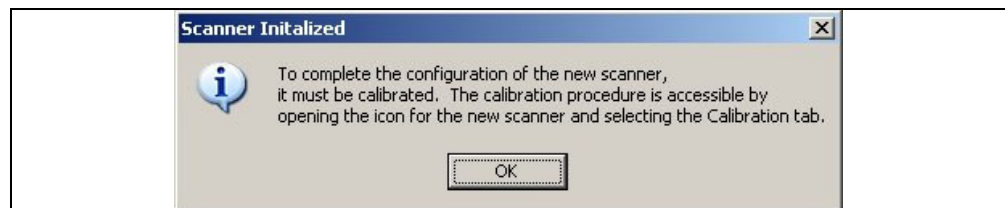

Figure 2. Scanner Initialized Message
Step 7: The message shown in figure 2, below, will be displayed if a calibration for the gauge installed does not exist on the system. Proceed to Quick Start Guide Sheet 10 for a general description of calibration and the calibration wizard in Total Vu.